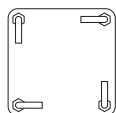

Figure 2
2. Assemble anchor system as follows: Thread nut (#36) to bottom of threads on anchor bolt (#40) insert threads of anchor bolt (#40) through hole on anchor plate (#41) and secure with nut (#36). Repeat this step for the remaining anchor bolts. See Figure 2. Note: Each leg of anchor bolts should face the anchor bolt to the right. See Detail A.